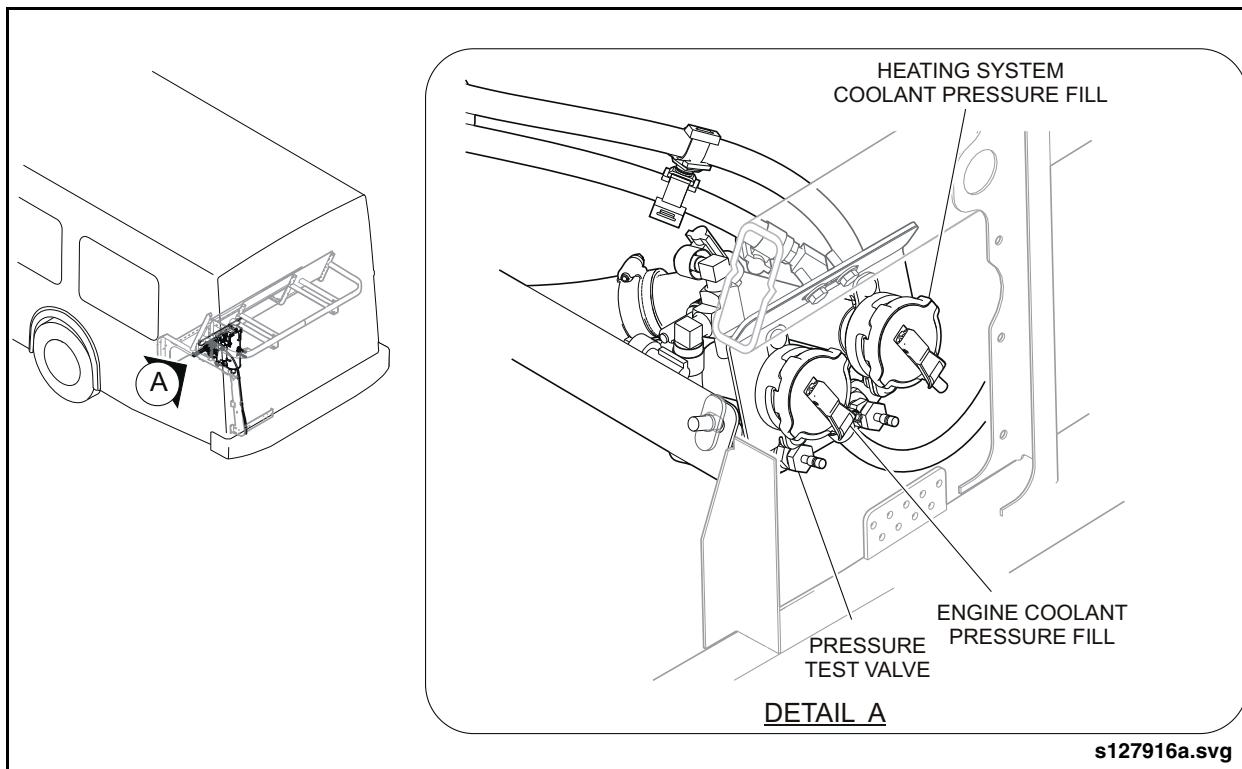

Fig. 6-1: Pressure Fill Connectors
4. Locate the engine coolant pressure-fill connector in the engine compartment. See "Fig. 6-1: Pressure Fill Connectors" on page 6.